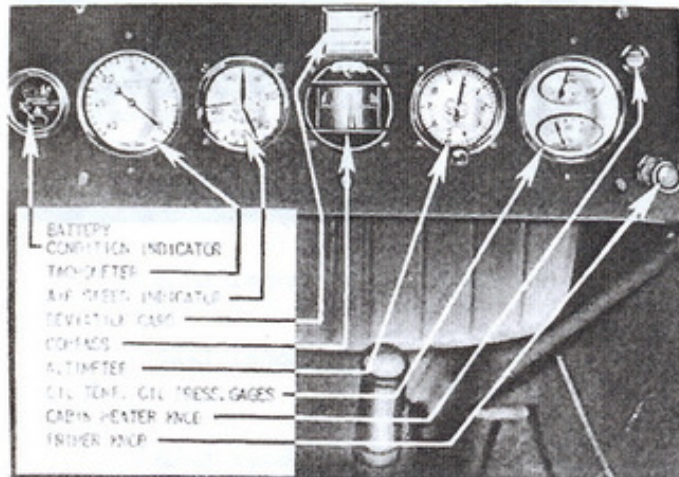

Figure 8 -
b. The Instrument Panel. (See figures 8 and 9.) - This panel, located in front of the pilot, contains a battery condition indicator (model L-4A only), tachometer, air-speed indicator, compass, deviation card, altimeter, oil temperature and oil pressure gages, primer knob, and cabin heater knob. An air heater muff surrounds the exhaust silencer and is used to furnish warm air to the cabin. Ventilation is accomplished by adjustment of the sliding window on the left side.
h. The Fuel System. (See figures 8, 9, 13, and 18.) - The fuel system is composed of one 12 U.S. gallon (10 Imperial gallon) gasoline tank, primer, throttle control, fuel
d. Turn primer knob slightly to unlock. (See figures 8 and 9.) Pull out and push in slowly. Repeat three to five times to supply gas to carburetor.
b. The speed should be maintained between 700 and 900 rpm and the oil pressure carefully observed. (See figures 8 and 9.)